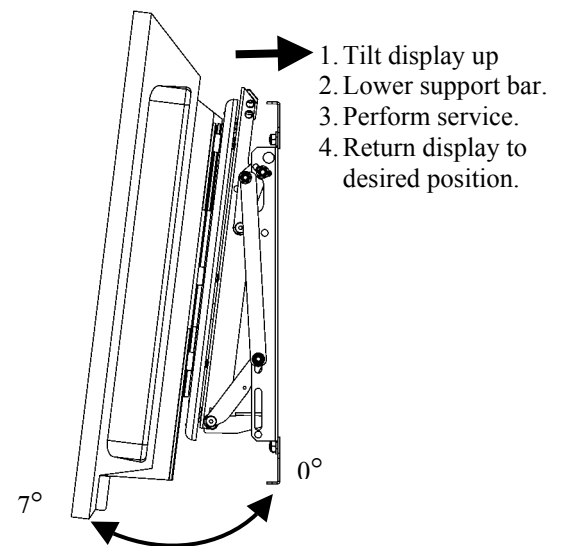

Figure 11. Tilt Display Up (for service only)
1. Manually tilt the display 0° to 7° up into the service position (see Figure 11).